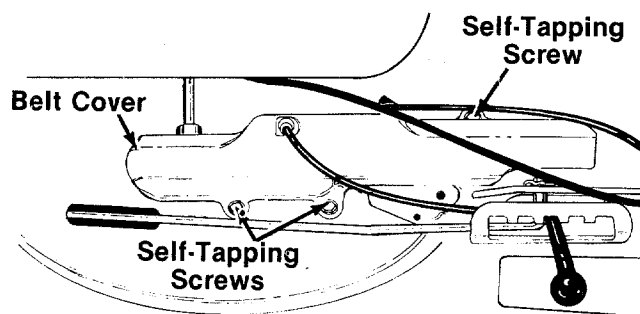

FIGURE 33.
3. Remove the three screws which hold the belt guard (and idler assembly). See figure 33.